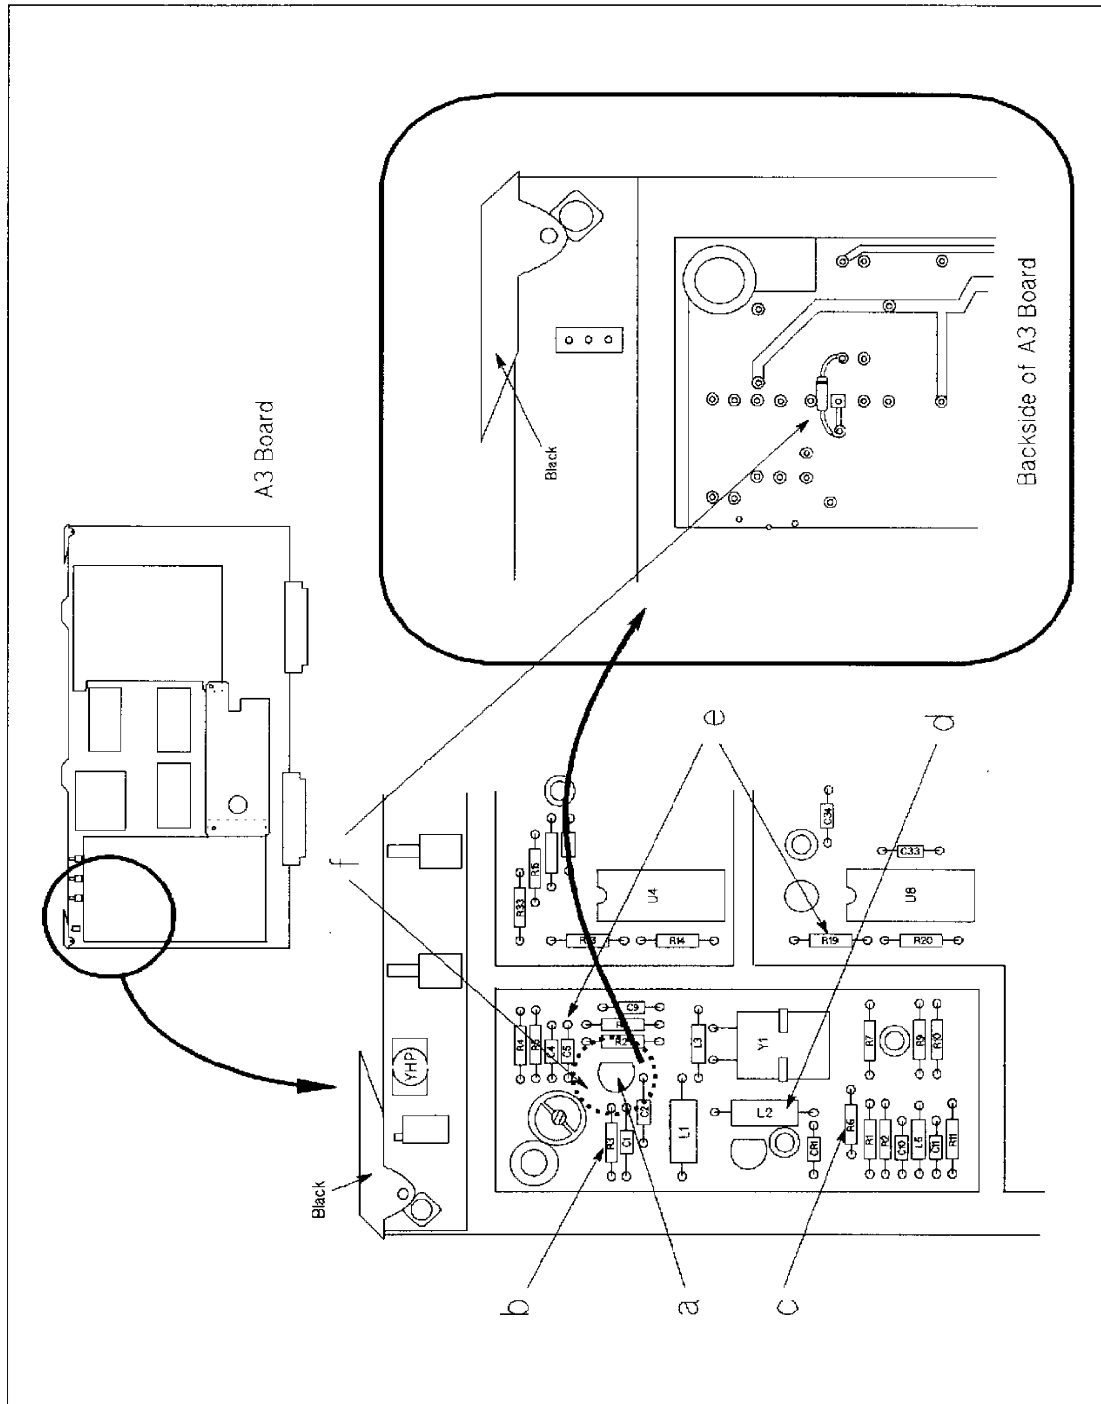

Figure 1. A3 Board Modification
3. Modify the A3 board with referring Figure 1:
- f. Add the diode (P/N 1901-0050) with referring Figure 1.